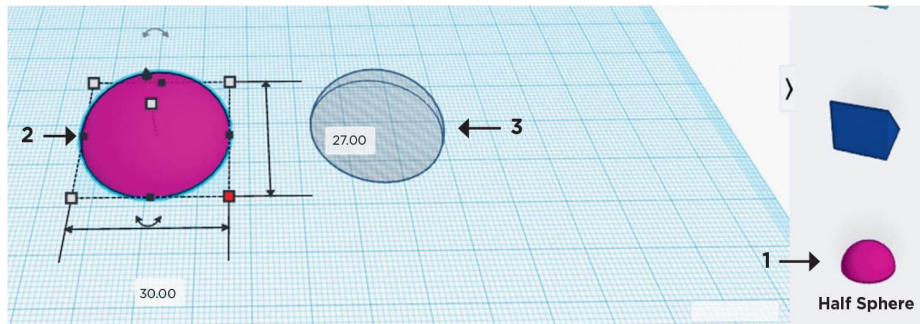

FIG. 1: Create one solid half-sphere and one half-sphere hole for the dome-shaped section of the pasta spoon.
1. Using a **Half Sphere** tool, create two half spheres. The large solid-half sphere is about 30 mm × 30 mm, and the smaller one is a hole that is about 27 mm × 27 mm and shown in fig. 1.